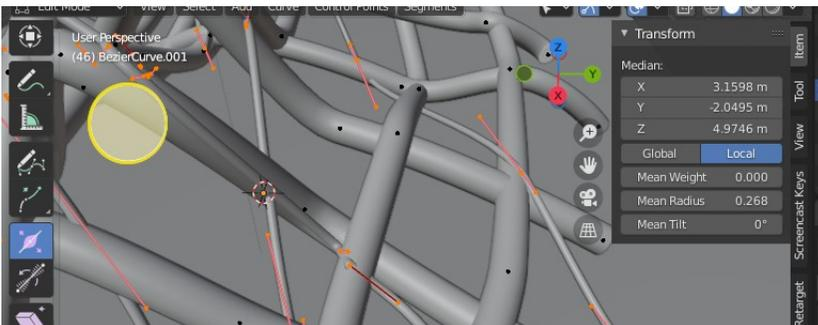

Figure 3-7 Changing the Radius of control points
- Draw curves in alternating directions to give the impression of weaving and, for added interest, alter the Radius of some of the wires. If you just change the Depth of the Bevel you will see that all the wires change, which is not what you want. However, in the Toolbar you can select the Radius Tool and change the size of specific control points as shown Figure 3-7.